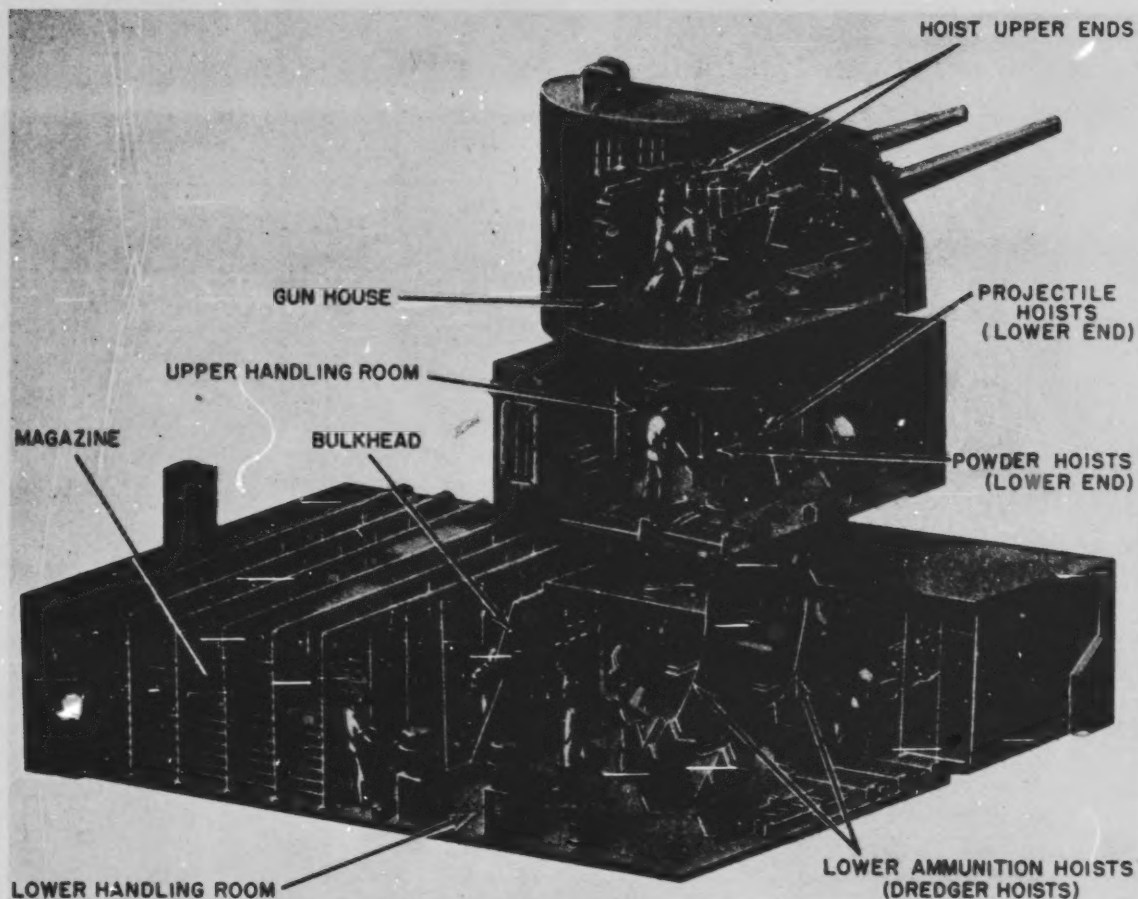

Figure 9-24.—5"/38 twin mount.
1. Enclosed twin mount with ammunition-handling room beneath the mount. This type of mount is a standard installation on many cruisers and destroyers, and some aircraft carriers (fig. 9-24).
All enclosed mounts are housed in a shield of armor plate. The shield is a boxlike structure that provides weather, blast, and splinter protection for crew, (fig. 9-24).
Figure 9-24 shows a conventional type ammunition transport installation for a twin 5"/38 mount. In this arrangement, powder cartridges are manually loaded into dredger hoists which lift them to the upper handling room; here they